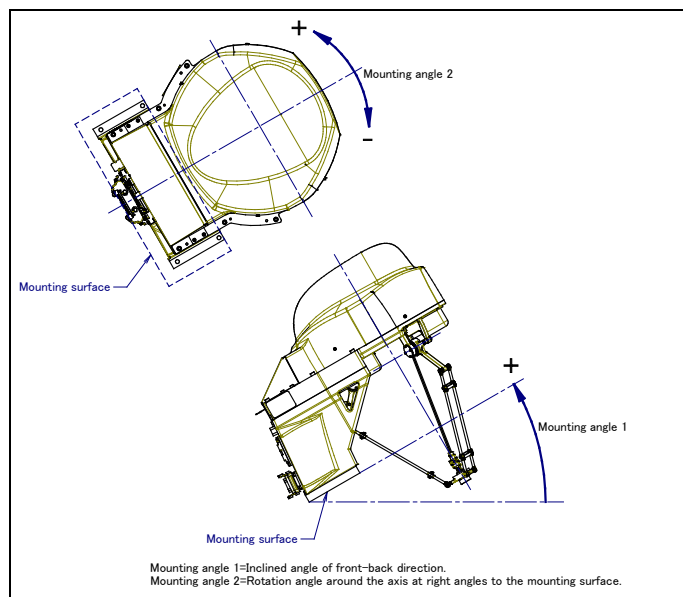

Fig. 1.2.1 Robot mounting angle
- 6 Input the angle of mounting surface to floor surface setting and the angle of robot to mounting surface setting as shown in Fig.1.2.1.